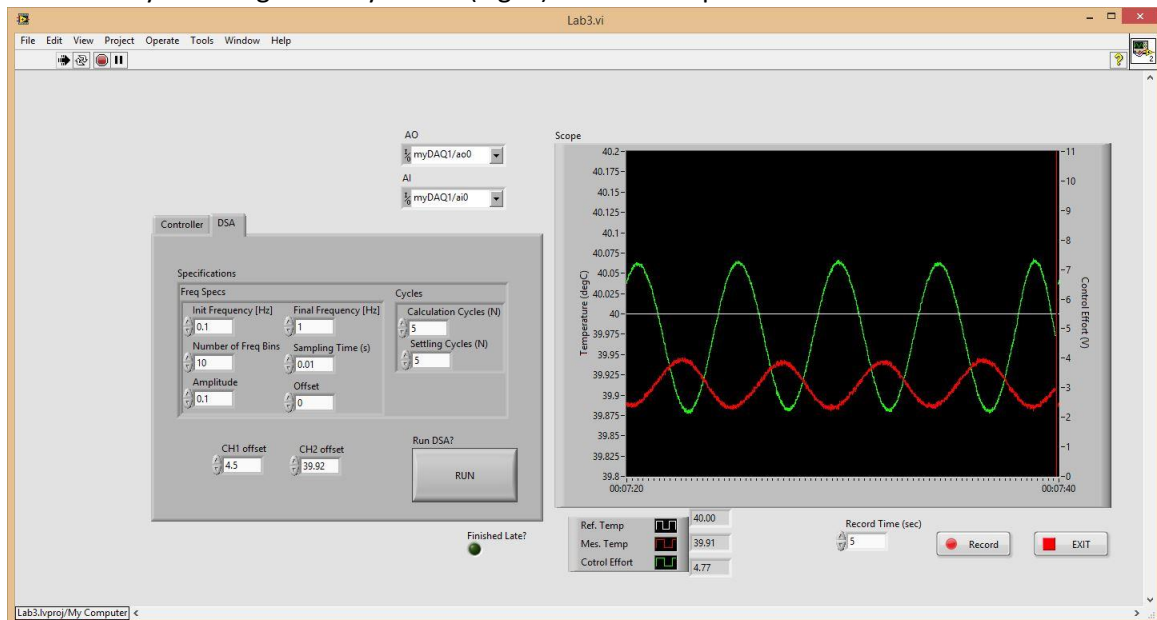

Figure 2 – Dynamic Signal Analyzer tab
2. Go to the Dynamic Signal Analyzer tab (Fig. 2) and fill out specifications.